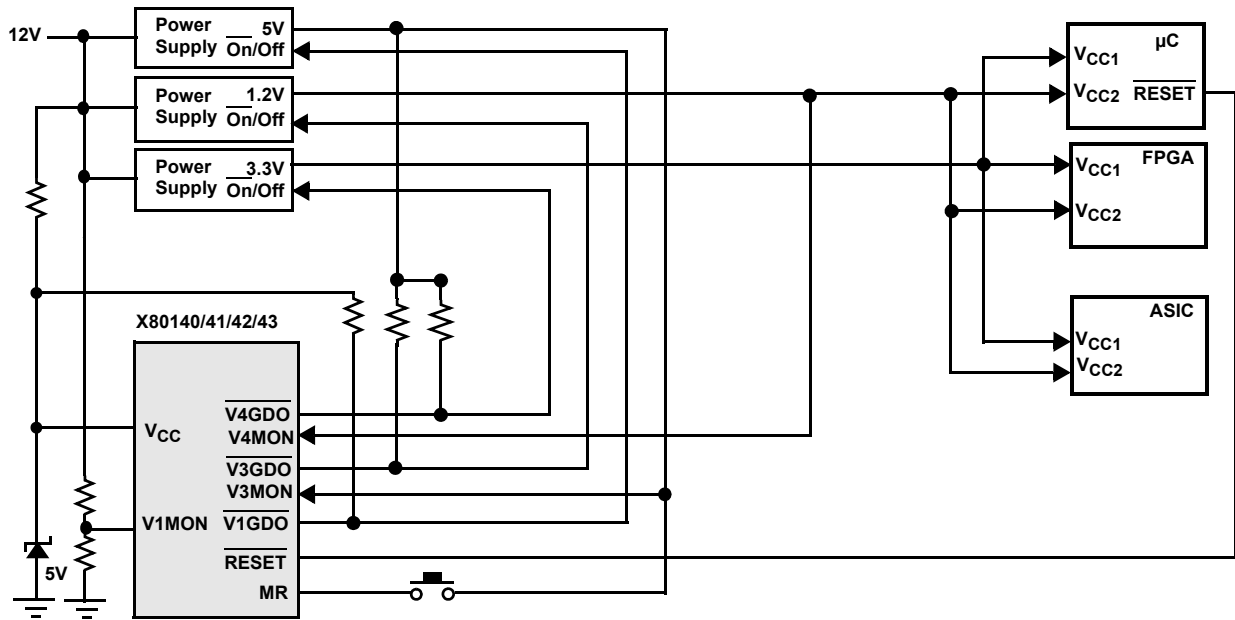
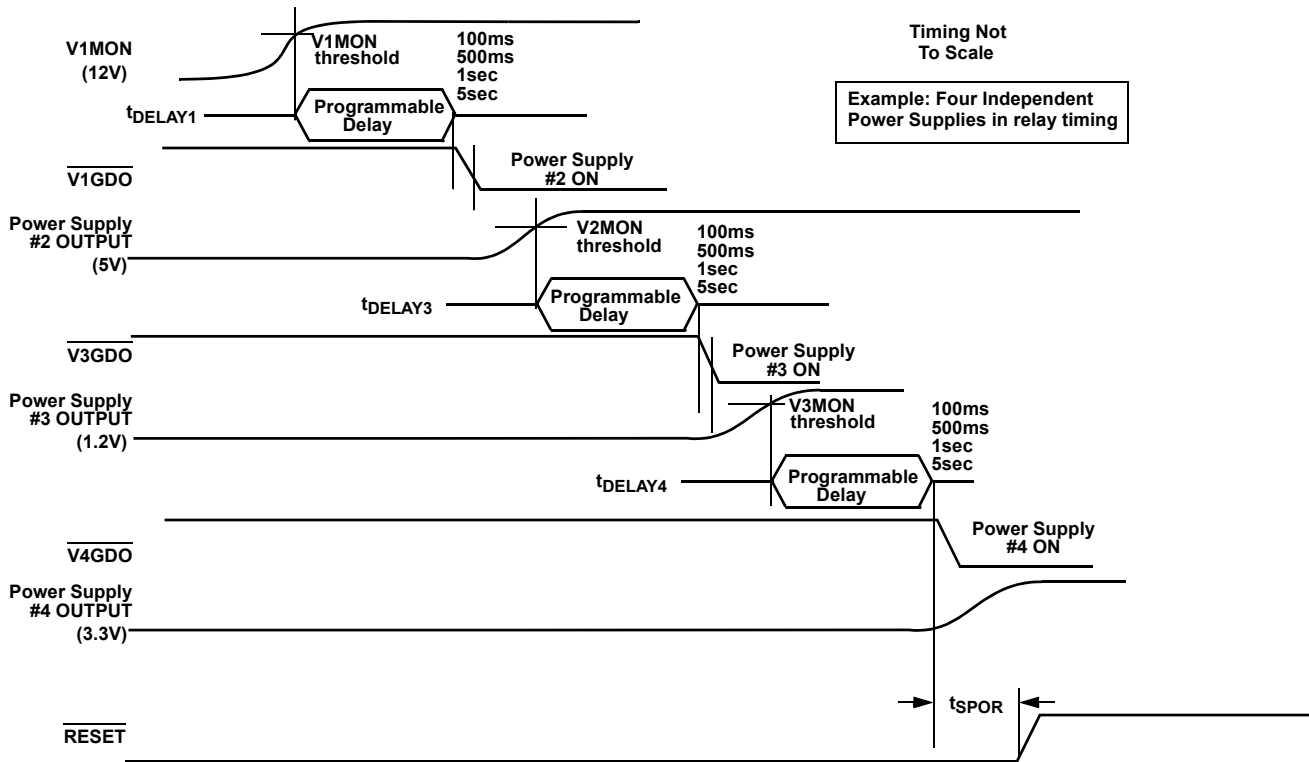

FIGURE 9. EXAMPLE OF RELAY POWER SUPPLY SEQUENCING
FIGURE 10. RELAY SEQUENCING OF DC-DC SUPPLIES (TIMING)
2. Power Up of Supplies Via Relay Sequencing Using Voltage Monitors (See Figure 9 and Figure 10).